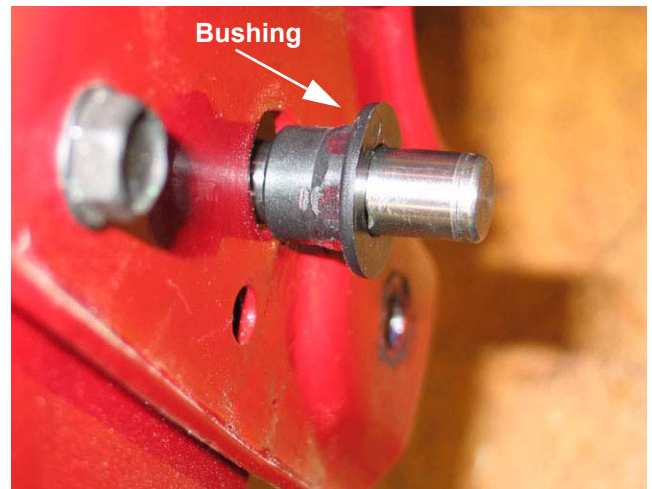

Figure 3.18
- 3.18. Push the hexagonal drive axle bushings out of each side of frame. See Figure 3.18.